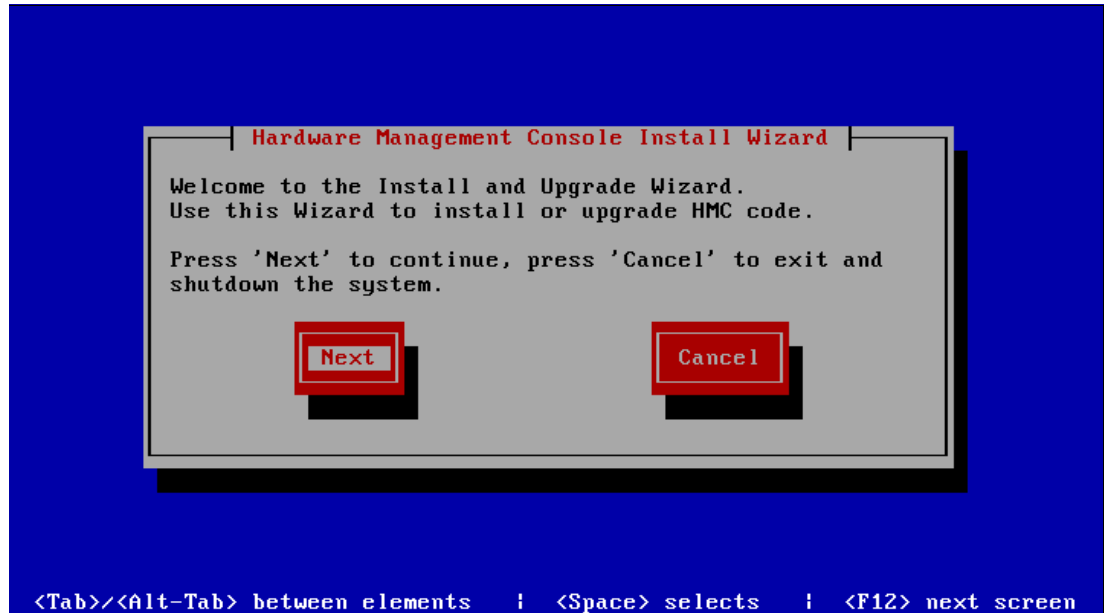

Figure 3-71 HMC Install Wizard
1. Select **Next** (Figure 3-71).